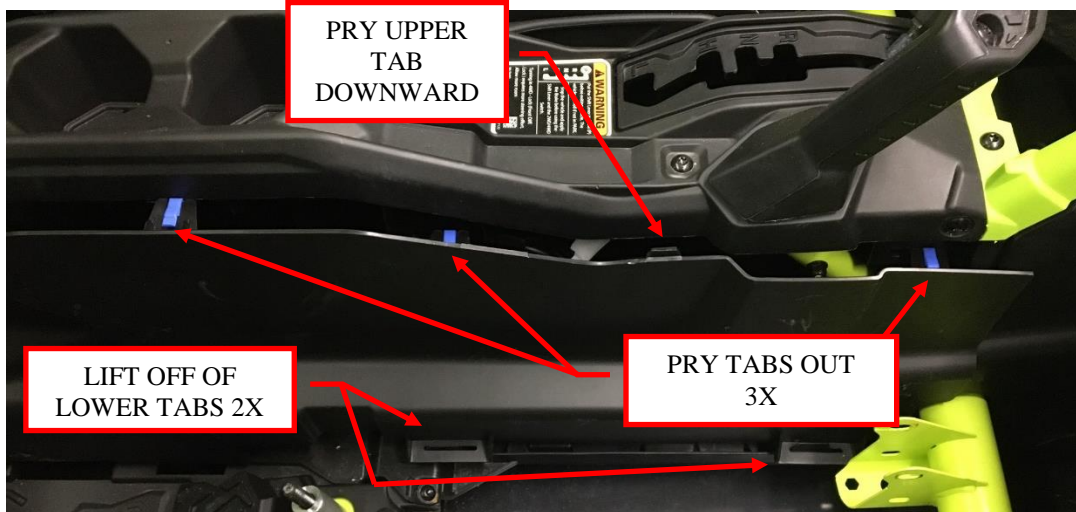

Figure 10: Remove the center console side panel.
9. Remove the side panel of the center console to access the ignition powered accessory terminal. The panel is removed by carefully prying the side wall tabs outwards, carefully prying the top tab downward, and then lifting off of the lower tabs. See Figure 10.